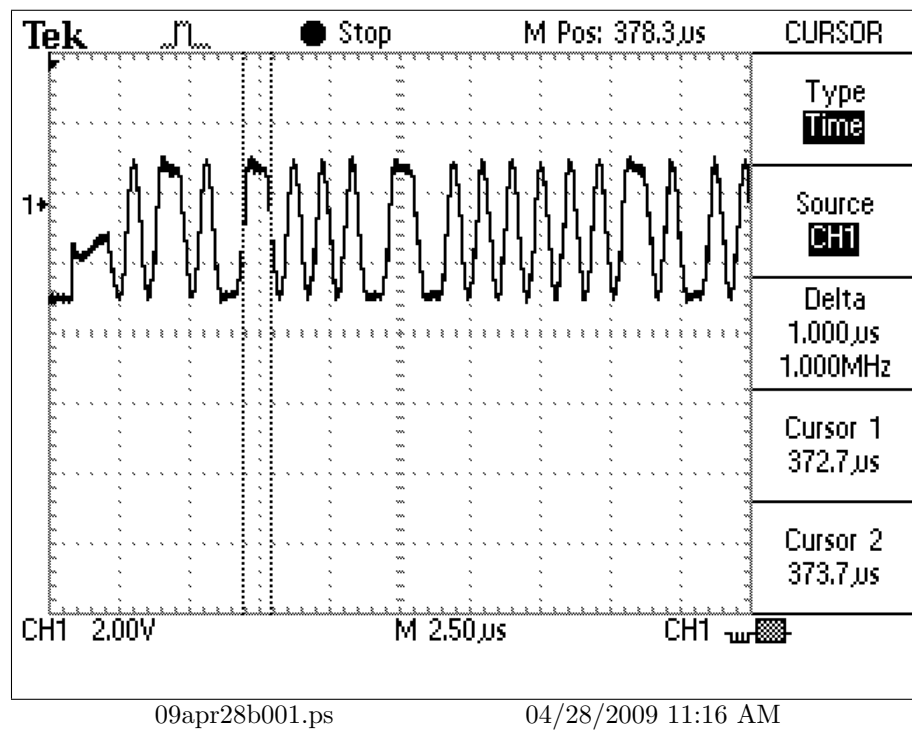

Figure 12: Duration of a “1” bit
- 7.2 It appears that “1”’s are $1\mu\text{s}$ long. (Figure 12, page 15)